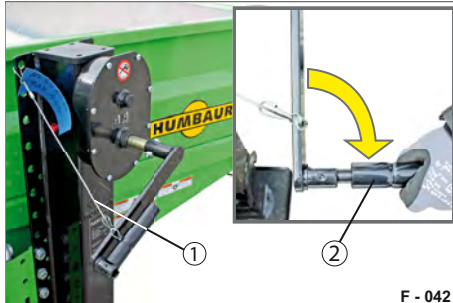

Fig. 23 Unlocking crank handle
- ▶ Fold out the crank handle (Fig. 23/2).
- ▶ Release the securing cable (Fig. 23/1) from the crank handle.